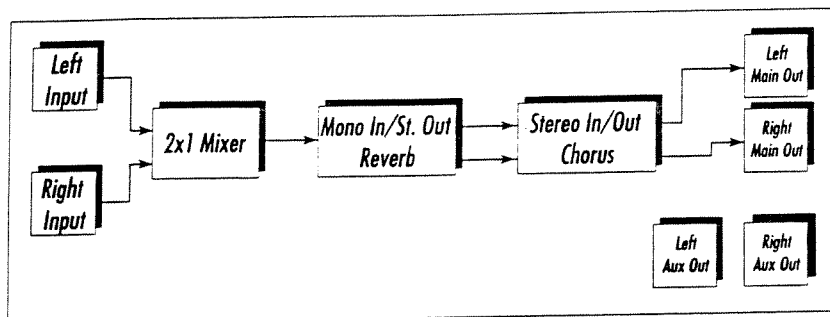
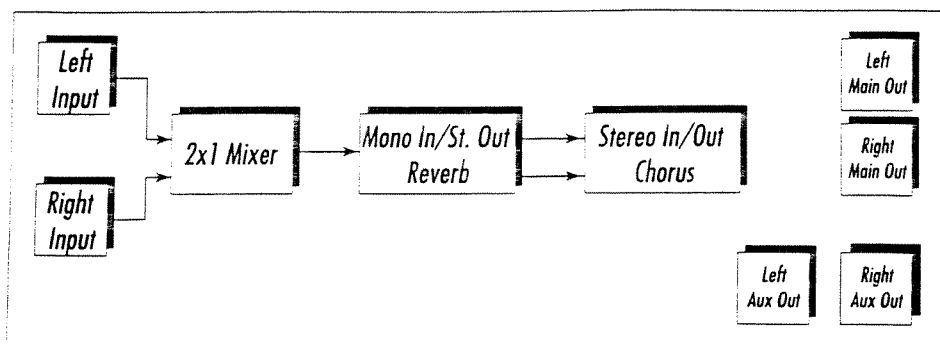

Fig. 3-3. Linking Example
Fig. 3-8.
To illustrate the linking process, let's suppose that you've created an Algorithm that contains an MFX Reverb Module and a Stereo Chorus Module, and that you want to link them in series with reverb first, and chorus second. Also, let's connect both the left and right inputs of the TSR-24 to the input of the reverb using a 2x1 mixer Module (remember that inputs can only be connected to one output). First, diagram the Algorithm so that you have a reference point for the routing that you want to accomplish. A diagram of the Algorithm is shown in figure 3-3.
11. Use the Parameter <+> button to scroll until the top line reads MVERB OUT 2. Output 2 of the MFX Reverb is now connected to input 2 of the stereo chorus. The Algorithm routing looks like figure 3-8.
To use AutoLink, repeat step 1 in the previous example and press Access button <1> in step 2. If you added the Modules in the order shown in figure 3-8, AutoLink will link the Modules as shown in figure 3-3 with one exception: the Right and Left Aux inputs are connected to the MVerb Out 1 and 2 because AutoLink uses the next available outputs and links them to the inputs, in this case, the Aux inputs.